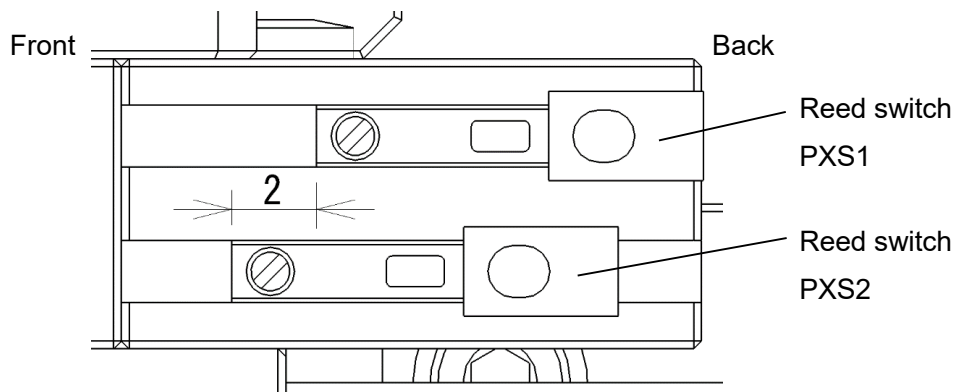

Figure 35 Reed switch mounting position
- ① Mount a jaw to the chuck and index it to the jaw change position.
- ② Shift the phase of the wrench to prevent it from entering the bolt hole.
- ③ Move the BR-AJC end effector to the bolt tightening/loosening position (refer to 5.3.2. Teaching the Bolt Tightening/Loosening Position).
- ④ Position it so that the reed switch PXS2 turns ON with the wrench being retracted and not inserted in the bolt hole. The position must be as close to OFF as possible.
- ⑤ Mount the reed switch PXS1 in the position about 2 mm behind PXS2. (Figure 35 Reed switch mounting position)
- ⑥ Insert the wrench in the jaw mounting bolt hole.
- ⑦ Drive the nutrunner to loosen the bolt to the position where PXS2 turns ON.
- ⑧ Confirm that the serrations are separated from each other and the jaw can be removed.
- ⑨ Confirm the bolt tightening operation and bolt loosening operation created in "5.2. BR-AJC End Effector Control Program". Also, adjust the reed switch position as necessary.